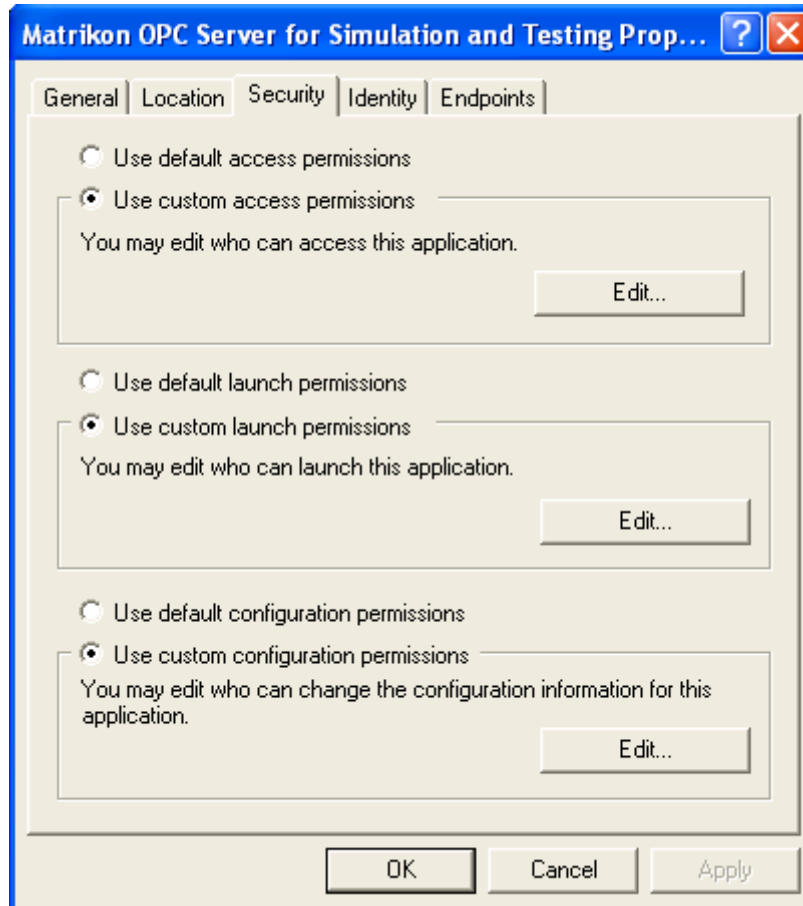

Figure 69 - Distributed COM Configuration Security Tab
5. The **Distributed COM Configuration Security** tab (Figure 69) appears.